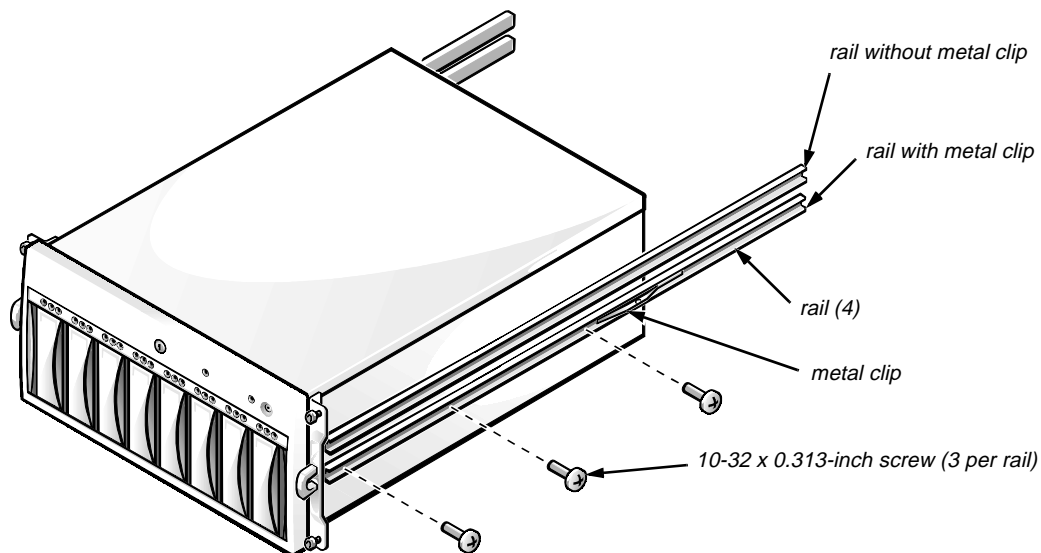

Figure 2-9. Installing the Rails
- 1. Install two rails on one side of the storage system (see Figure 2-9).**